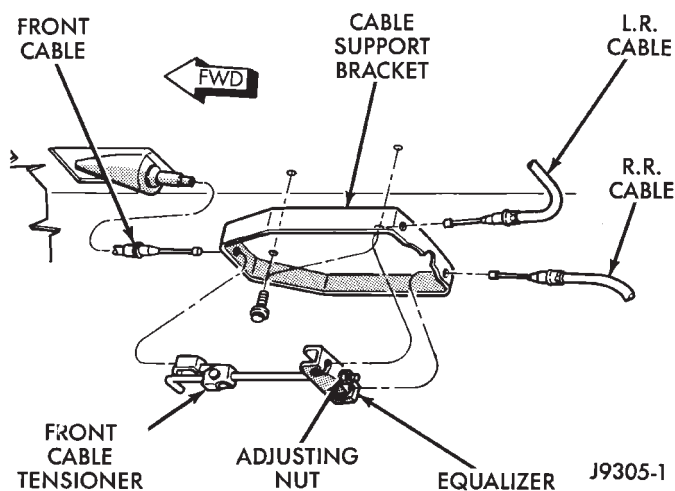

Fig. 4 Parking Brake Front Cable Attachment
- (3) Raise vehicle on hoist.
- (4) Remove front cable adjusting nut and disengage cable tensioner from equalizer. Then remove front cable from tensioner (Fig. 4).
- (5) disengage front cable from insert and insert from floorpan (Fig. 4).
- (1) Release parking brakes, if applied.
- (2) Disconnect battery negative cable and raise vehicle on hoist.
- (3) Remove front cable adjusting nut and disengage cable tensioner from equalizer. Then remove front cable from tensioner (Fig. 4).
- (4) disengage front cable from insert and insert from floorpan (Fig. 4).
- (5) Lower vehicle.
- (6) On models with full console, remove console. Refer to parking brake lever removal procedure for full console.